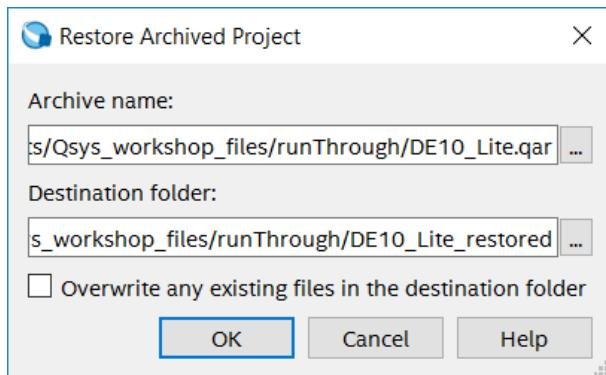

Figure 6: Selecting Archive Name and Destination Folder for the .qar file.
- Enter **Nios** in the search tab and select the **Nios II Processor** (not the Classic Nios II) from the library by double clicking. See Figure 6 on the following page for example.